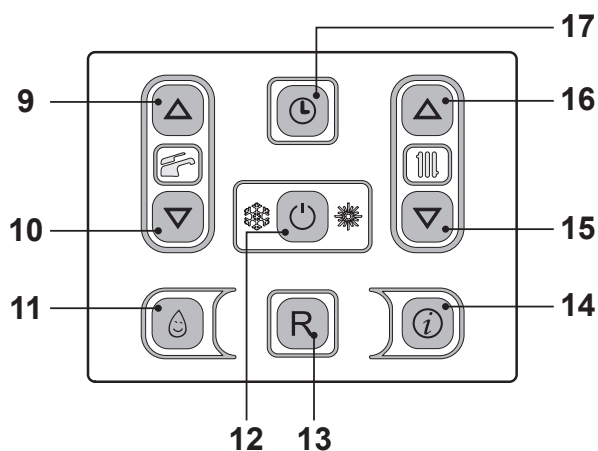
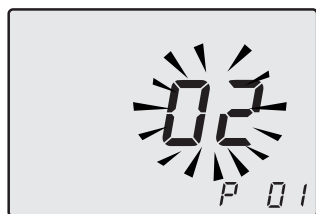

Fig. 7.32
Fig. 7.33
- Enter the "programming mode" by pressing keys 12 - 15 - 16 (Fig. 7.32) for 10 seconds at the same time until the letters **P01** on the LCD display, indicating that "parameter 01" (Fig. 7.33) has been activated.
- By pressing key 12 (Fig. 7.32) confirmation of the inserted value is obtained.
- Press keys 15 or 16 (Fig. 7.32) to exit without changing the value.